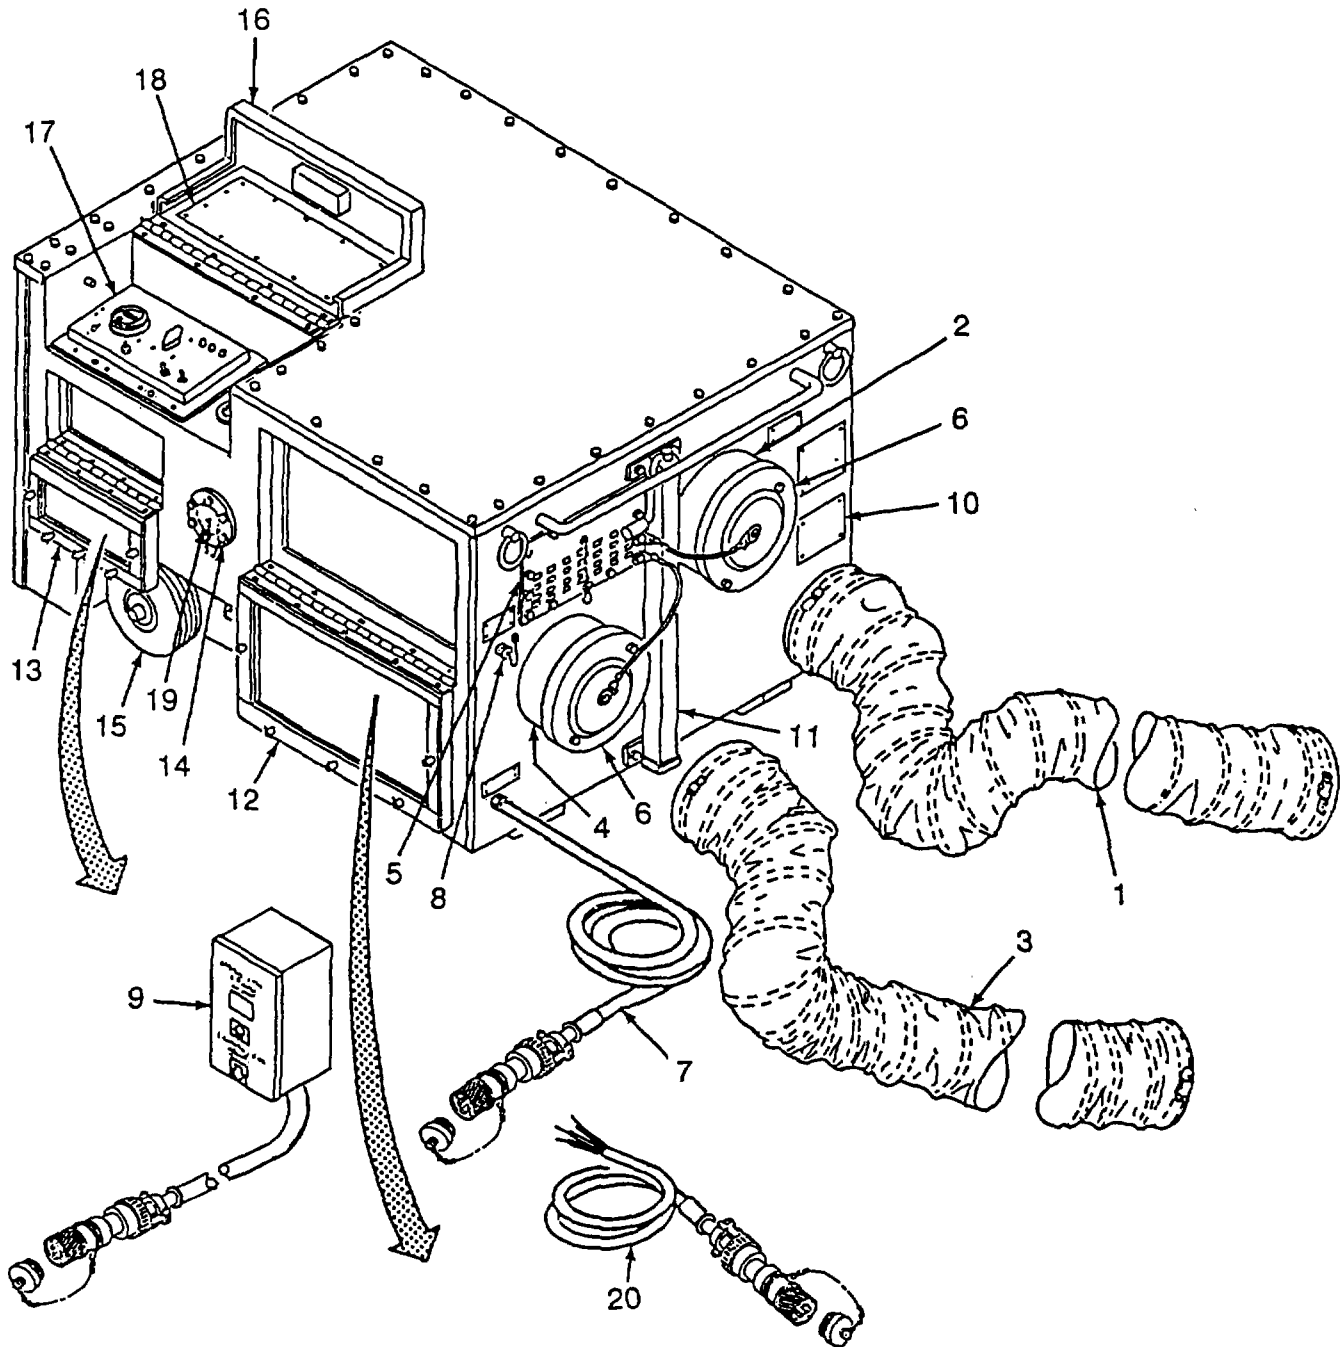

Figure 1-2. Major Components, Front and Right Side
- a. Front and Right Side. (Refer to Figure 1-2)
- (1) Supply Air Duct. The supply air duct (1) moves hot air from the ASH to the shelter.
- (2) Supply Air Outlet. The supply air outlet (2) provides support to attach the supply air duct.
- (3) Return Air Duct. The return air duct (3) brings return air back to the ASH for reheating.
- (4) Return Air Inlet. The return air inlet (4) provides support to attach the return air duct.
- (5) Fresh Air Damper. The fresh air damper (5), when open, allows fresh air to be drawn into the ASH. It can be used in the ventilating or heating mode.
- (6) Return And Supply Air Duct Covers. The return and supply air duct covers (6) prevent dust and debris from entering the ASH when not in operation or in storage.
- (7) Power Cable. The power cable (7) is to be connected to a power source to operate the ASH.
- (8) Remote Thermostat Receptacle. The remote thermostat receptacle (8) provides a receptacle for attaching the remote thermostat cable.
- (9) Remote Thermostat and Cable. The remote thermostat and cable (9) controls temperature from inside the heated area.
- (10) Lubrication Chart. The lubrication chart (10) provides information for proper lubrication of the ASH.